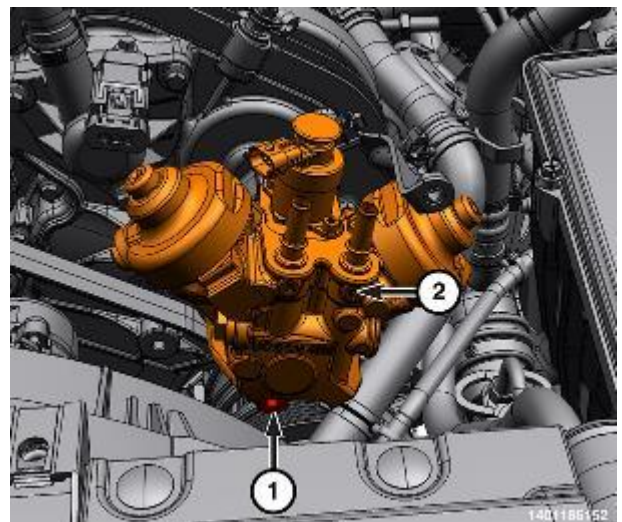

Figure 133 – HPFP Lower Bolt
71. Remove the lower bolt (1) from the HPFP (2) and slide the pump away from the engine as far as possible (Figure 133).
- 80. Install the pump to the engine using the pins as a guide. Install the lower fuel injection pump bolt (1) and hand tighten the bolt (Figure 133).